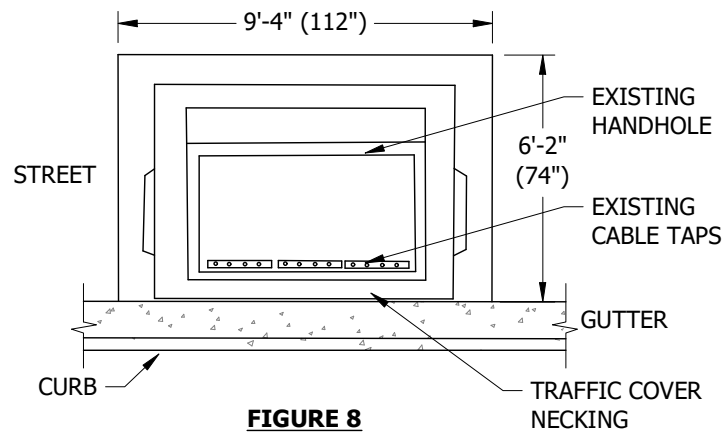

FIGURE 8
- J AFTER THE LOCATION IS ESTABLISHED, MARK OUT DIMENSIONS FOR THE EXCAVATION WIDTH, LENGTH AND DEPTH PER FIGURES 8 TO 10. THE WIDTH AND LENGTH DIMENSIONS GIVEN ALLOW AN EXTRA 8 INCHES FOR SETTING THE 3315 TRAFFIC COVER ASSEMBLY. EXCAVATING MUST BE DONE ACCURATELY FOR PROPER PLACEMENT OF THE "TRAFFIC COVER ASSEMBLY" ASSURING CABLE TAP ACCESS FOR HOT STICK OPERATION.